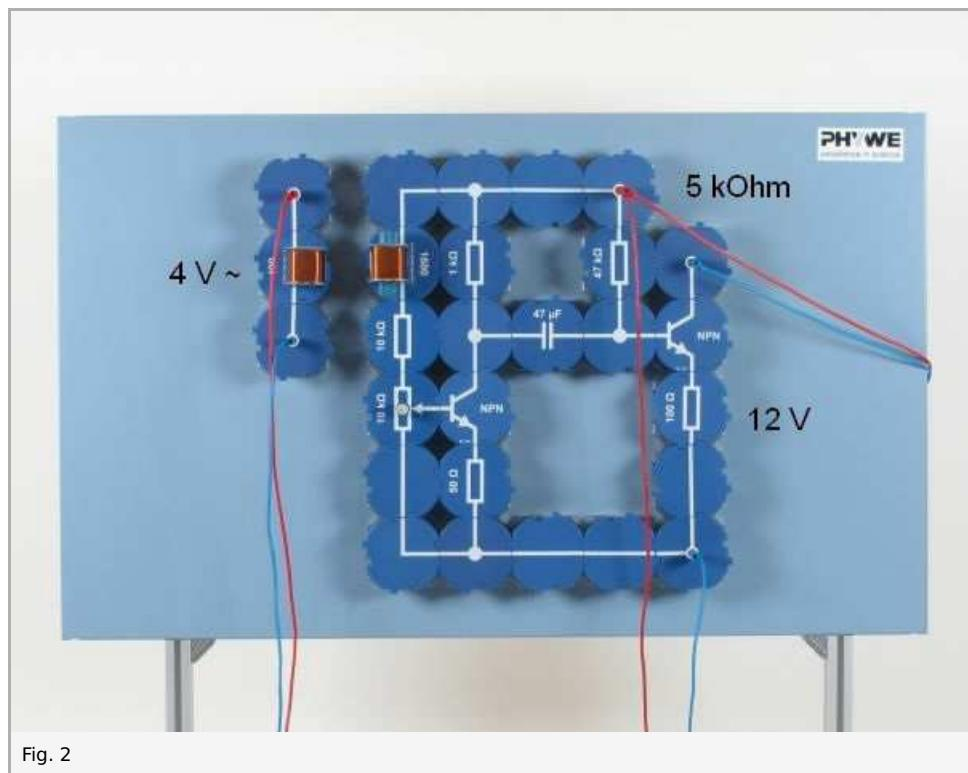

Fig. 2
- Extend the experimental set-up as shown in Fig. 2; adjust the potentiometer until the humming noise is again to be heard; pay attention to changes in the loudness of it (2)